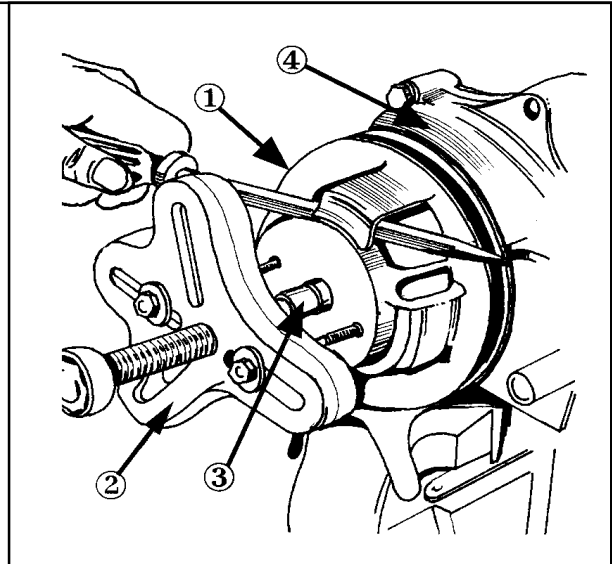

Figure 3
2. Using Puller No. EF-0300 and a sleeve slightly smaller than the pulley shaft, remove the pump pulley from the shaft. Figure 3.